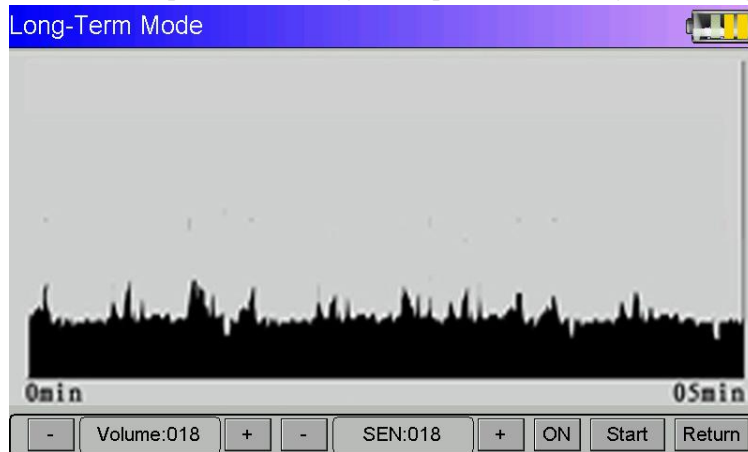
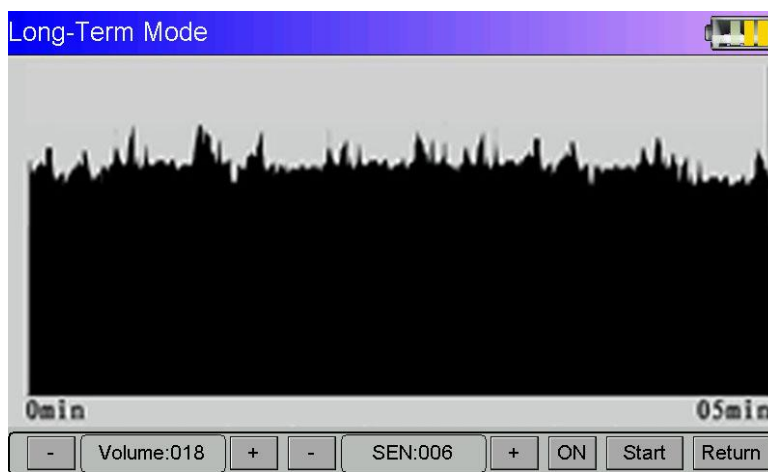

Figure 10
Figure 11
(2) The sensor is placed on the ground above the water leakage point, carrying out the continuous monitoring of two different periods of peak water and low peak. In this case, the value of the sensitivity should be set to the same value.
- In the same suspected leakage point, curve amplitude is high in peak water while the curve is at the low peak showed higher amplitude. ( See Figure 10 , Figure 11 )